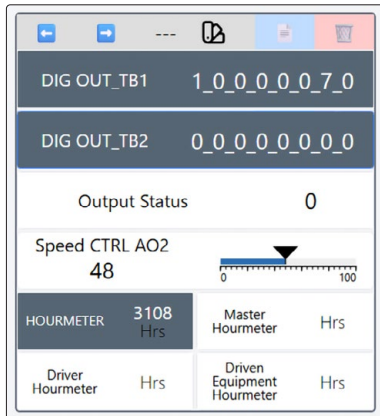

Figure 29
1. Click the center of the element you want to delete. In the example in *Figure 29*, the **DIG OUT_TB2** element outline is blue to indicate it is selected.